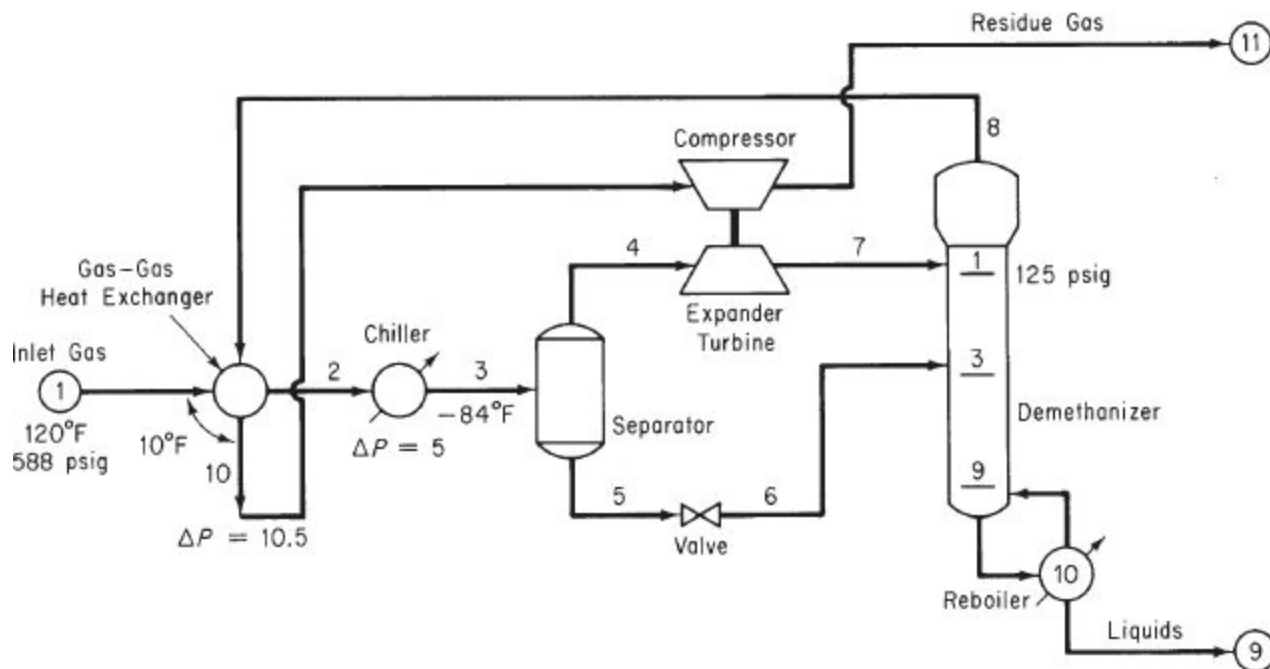

Figure P16.15
16.15. A demethanizer tower is used in a refinery to separate natural gas from a light hydrocarbon gas mixture stream (1) having the composition listed below. However, initial calculations show that there is considerable energy wastage in the process. A proposed improved system is outlined in Figure P16.15. Calculate the temperature (°F), pressure (psig), and composition (lb mol/hr) of all of the process streams in the proposed system.
Carry out the solution of the material and energy balances for the flowsheet in Figure P16.15, determine the component and total mole flows, and determine the enthalpy flows for each stream. Also find the heat duty of each heat exchanger.